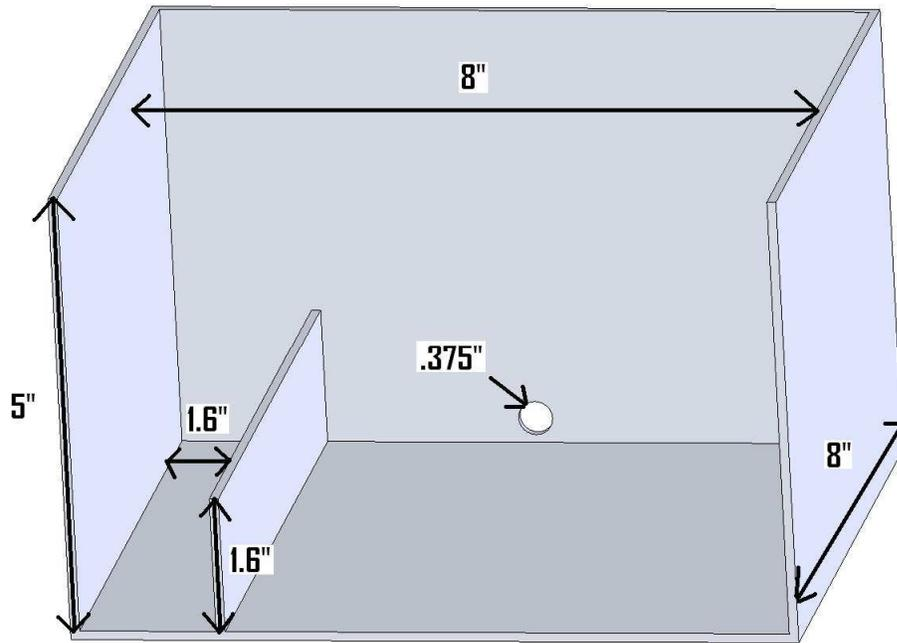

FIGURE 1-2
- Construct baffling for the filter pick area. This is key for pump performance and longevity. Typical baffling size is 8x8x5. Use **figure 1-2** for reference.